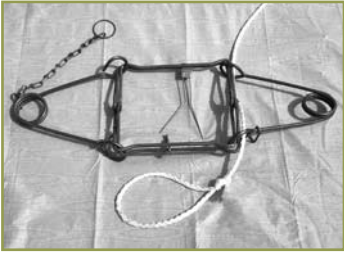

Figure SK5a. Step 1
- 1) Thread the rope through the eyes of one of the springs (Figure SK5a).